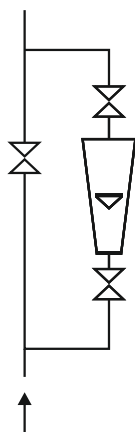

fig. 1
- 2) In all types of rotameters the most profitable is (in case of industrial rotameters it is necessary) shount of rotameters (fig.1). It makes possible to exchange rotameter without the interruption in technological process. The detour valve in closed condition must be completely tight.